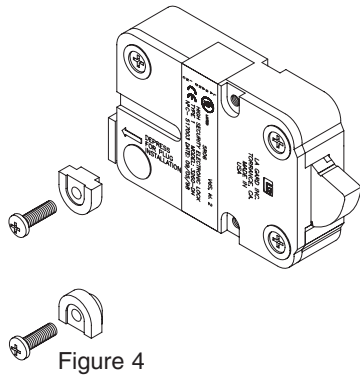

Figure 4
**RELOCK BRACKETS (P/N 3188):** These extension brackets make up for the reduced body thickness of the Dual-Handed Swingbolt and allow use of the original relock trigger plate without modifications, see Figure 4.